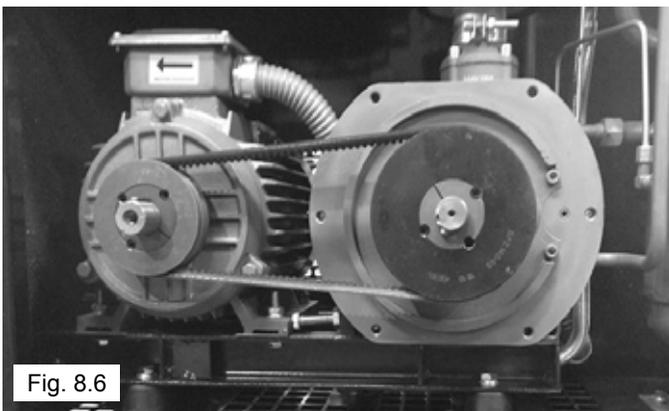

Fig. 8.6
2. Check that all drive belts are in the pulley grooves. Adjust the tension of belts through the adjusting Bolt on motor. (See Fig. 8.6)